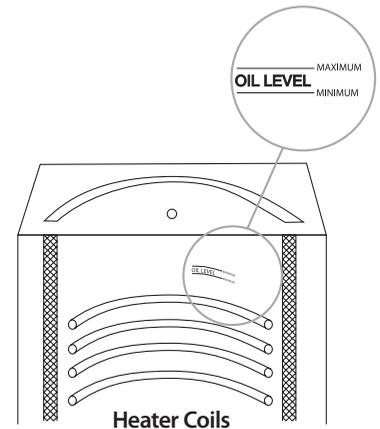

FIGURE 4
5. **Add Cooking Oil** - Liquid or solid cooking oil may be used. Melt solidified cooking oils in tender or other means and pump into fryer. Add enough cooking oil to raise liquid to within one inch of Minimum oil level line (see Figure 4, page 12). As oil heats, it expands. Check level again once oil has heated to verify that level is between Minimum and Maximum marks.
**! DANGER:** Do not turn on power unless all heater coils are completely covered by cooking oil. Fill shortening to a level between the Maximum and Minimum oil level lines found on the inside of the cookpot (see Figure 4).
16. Oil Level - Add or remove cooking oil so that it is at a level between the Maximum and Minimum Level marks. (Figure 4).